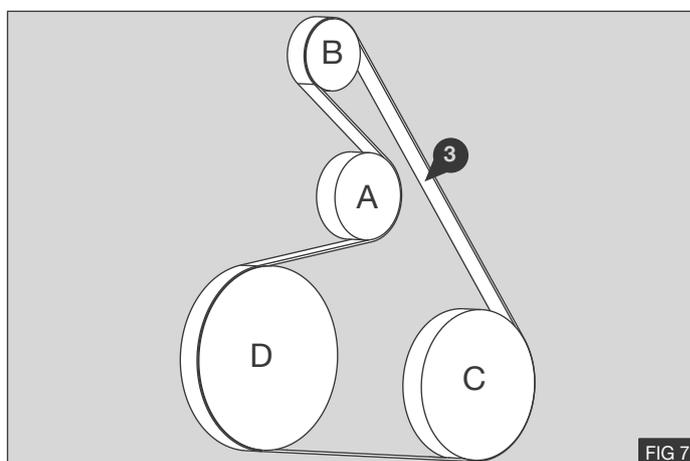

FIG 7
1. Fit the supplied drive belt ③ as shown opposite - Fig 7.